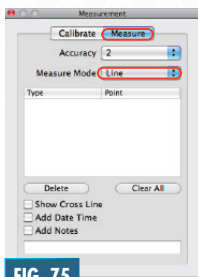

FIG. 75
2. Click the "Measure" button. Change the measure mode to "Rectangle." (Fig. 75)